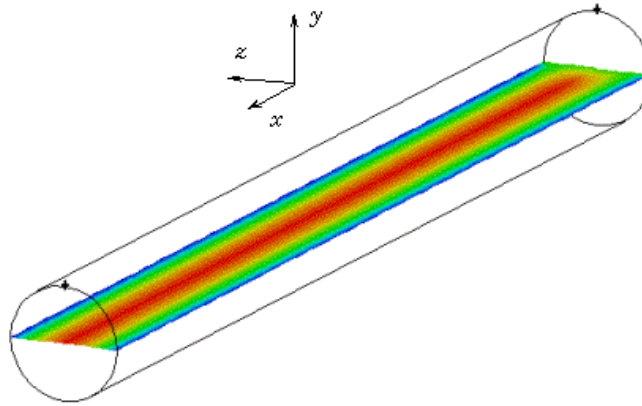

Figure 9.5.1: Plane Postprocessing Object
A plane is a postprocessing object in the shape of a cutting plane. Using a plane postprocessing object, you can display solution results on a planar surface that intersects the geometric entity to which the object is attached. Figure 9.5.1 shows a plane surface used to represent smooth band contours of velocity magnitude.
The plane postprocessing object shown in Figure 9.5.1, uses the positive (or negative) y axis of the global coordinate system as the **Orientation** vector. Hence the cutting plane is aligned with the $x - z$ coordinate plane. The global coordinate system, which is not shown in the figure, is located along the centerline of the pipe.
- If you specify a volume as the attachment entity, the resulting plane object constitutes a two-dimensional, planar surface such as that shown in Figure 9.5.1.